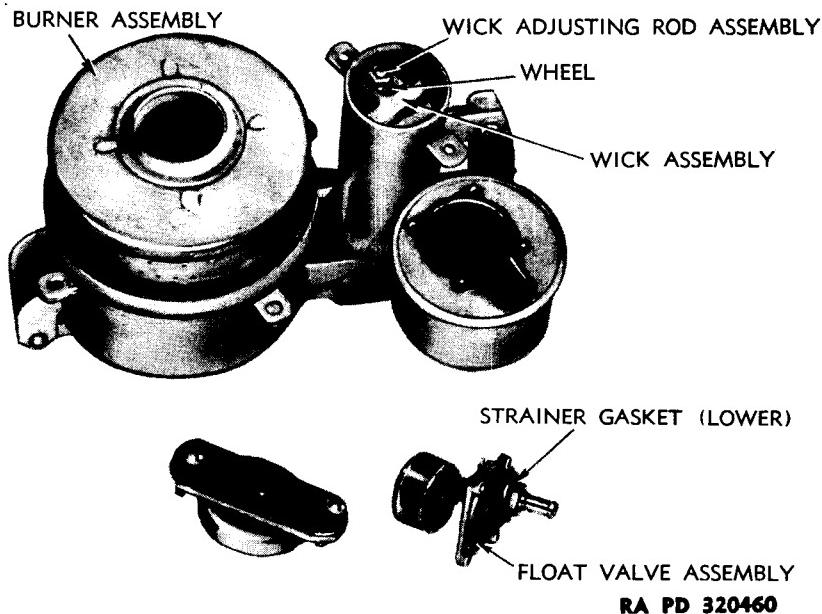
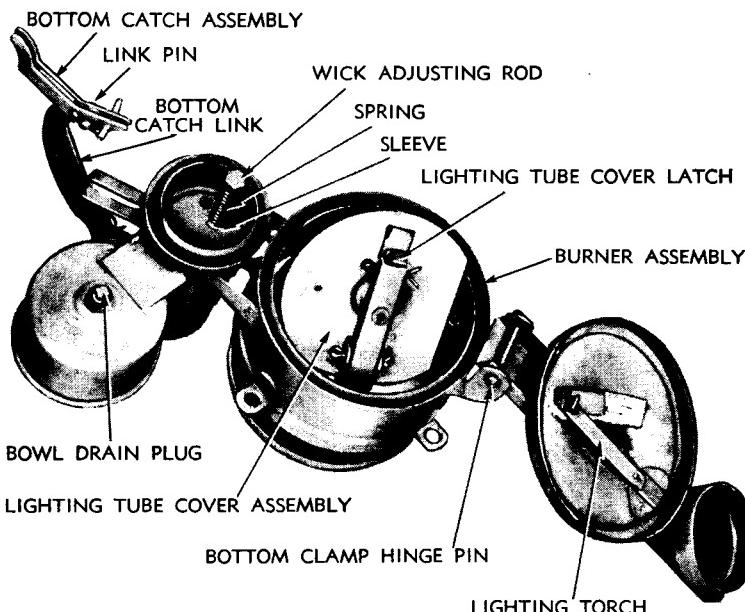

Figure 46 — Wick Assembly in Burner
Figure 47 — Burner Assembly—Bottom View
d. Remove Wick Assembly and Operating Bolt (fig. 46). Open bottom covers of burner unit. Pull wick adjustment up against spring pressure until wick assembly can be removed from adjusting bolt sliding sleeve. Hold head of bolt, loosen lock nut over sliding sleeve from which wick was unhooked and remove lock nut, sleeve, and sleeve nut. Unscrew adjusting bolt from remaining adjusting nut, and remove nut. Remove adjusting bolt, spring, and guide from bottom of burner assembly.
e. Remove Burner Cover Assemblies (fig. 47). Remove cotter pin and pin holding bottom clamp and cover assembly to burner. Remove two cotter pins and pins holding bottom catch link to burner and bottom catch assembly to link. Remove two cotter pins holding lighting tube cover assembly to burner and catch to cover assembly. NOTE: Remove above parts as they are released.
a. Install Burner Cover Assemblies (fig. 47). Install lighting tube cover over lighting tube and install cotter pin. Install lighting tube latch with straight lug down and with tapered projections under spring bar inside cover clamp and install cotter pin. Install lighting torch into pocket of burner lower cover. Install assembly to burner assembly with hinge pin and cotter pin.
b. Install Wick Assembly and Operating Bolt. Install spring and sleeve onto wick adjusting bolt, and insert assembly up through bottom of wick housing (fig. 47). Install special wick adjusting nut onto upper end of bolt, and turn bolt into nut until tangs on nut engage slide on side of wick housing. Install sleeve wheel onto hub of special nut. Screw nut onto end of wick adjusting bolt with wheel up. Install lock nut. Screw lock nut down until first thread of adjusting bolt just shows through lock nut. Turn sleeve wheel nut against lock nut and tighten. Lift the wick adjusting bolt to its highest position, place the wick so that it straddles the partition in the wick housing, and enter the U-shaped fork in the groove of the brass wheel on upper end of adjusting bolt (fig. 46). Install wick housing cover assembly with two screws and lock washers.